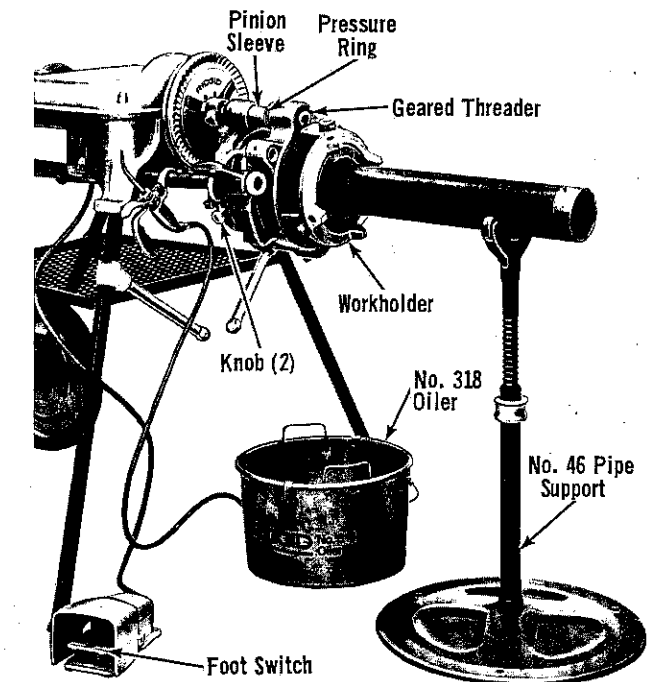

Figure 13. Threading Pipe with No. 141 Geared Threader (Close-Coupled Method) (Nos. 161 and 4PJ Threaders Similar)
9. Position No. 318 Oiler directly under Threader (Fig. 13).
10. Support long pieces of pipe with No. 46 Pipe Support (Fig. 13). Position approximately 2-1/2 feet from Threader.
5. Flood Dies (Fig. 13) with RIDGID Thread Cutting Oil during threading operation to assure long Die life.
6. **4PJ only** - Release Foot Switch just before Die Head begins to press on Pressure Ring (Fig. 13) at base of Pinion Sleeve.
141 and 161 - Step on Foot Switch and reverse Threader one or two revolutions. Pull knobs (Fig. 13) and rotate Cam Plate as far as it will go towards CD mark on Head to disengage Dies.